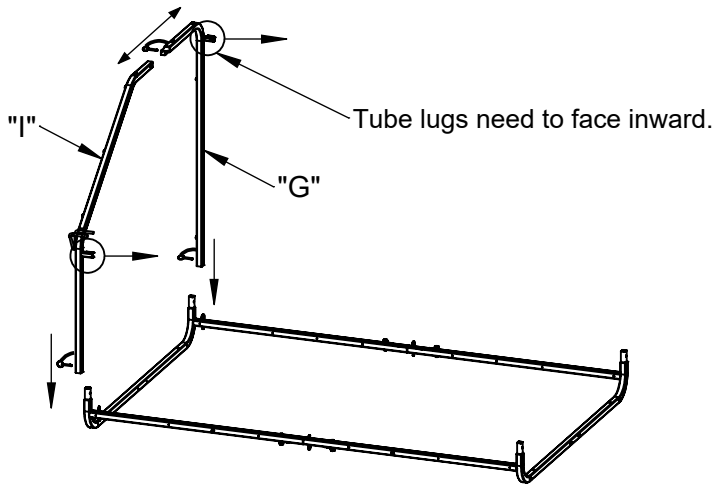
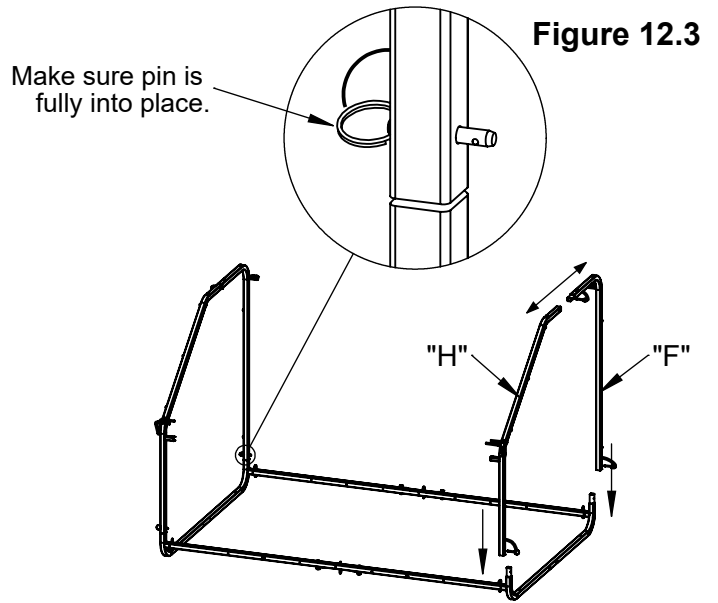

Figure 12.1
Figure 12.2
STEP 4: Take parts "G" & "I" and connect them together at the top, securing together with the connected push pin. Once connected at the top, place them onto the two stems sticking up on the bottom end frame tube, see figure 12.1. Again making sure that the lugs are facing inward toward the blind. Once the tubes are slid together insert the push pin as shown in figure 12.3. Once the left side is done take parts "F" & "H" and repeat to finish the right side, figure 12.2.